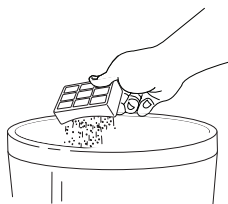

Fig. 22
- 3 Turn the filter over so that the dirty side is on the bottom and vigorously tap it clean against a garbage can to remove any dust. (Fig. 22)